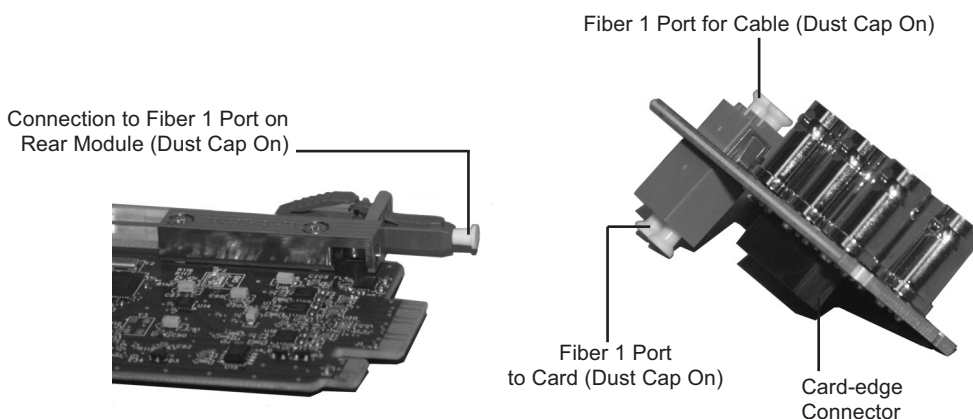

Figure 2.1 Card Connectors with Dust Caps Installed
- Connectors must always be inserted into a device or have a dust cap on. (**Figure 2.1**)